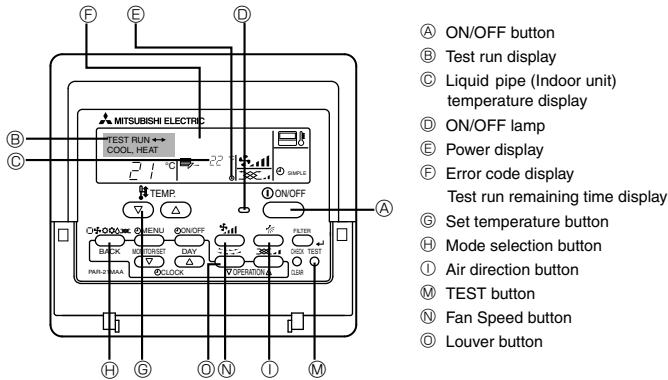

Fig. 7-1
7.2.1. Using wired remote controller (Fig. 7-1)
- ① Turn on the power at least 12 hours before the test run.
- ② Press the [TEST] button twice. ➡ "TEST RUN" liquid crystal display
- ③ Press the [Mode selection] button and switch to the cooling (or heating) mode. ➡ Make sure that cold (or warm) wind is blown out.
- ④ Press the [Fan speed] button. ➡ Make sure that the wind speed is switched.
- ⑤ Press the [Air direction button] or [Louver button]. ➡ Check operation of the vane or louver.
- ⑥ Check operation of the outdoor unit fan.
- ⑦ Release test run by pressing the [ON/OFF] button. ➡ Stop
- ⑧ Register a telephone number.